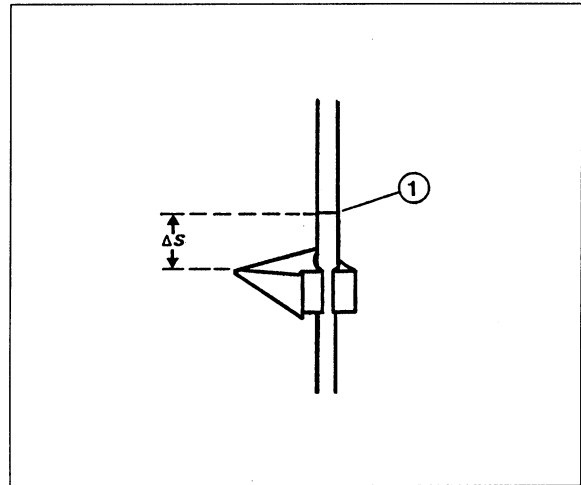

Fig. 2 Sketch for measurement of the distance Δs
(1) Zero reference point
7. Measure the distance Δs by which the pointer was displaced (due to the impact of the socket) (fig. 2) and note it down in table 1.